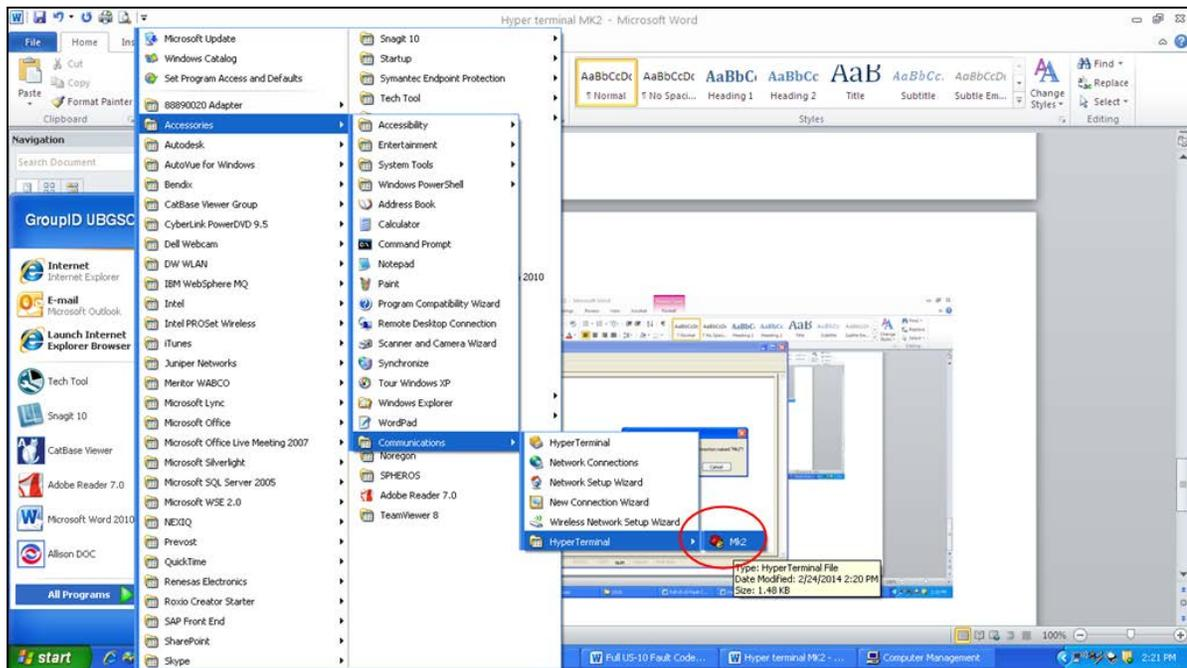

Fig.17
- Go back to the windows menu; the new connection will appear under HyperTerminal (Fig.17). Create a Desktop shortcut for future use.